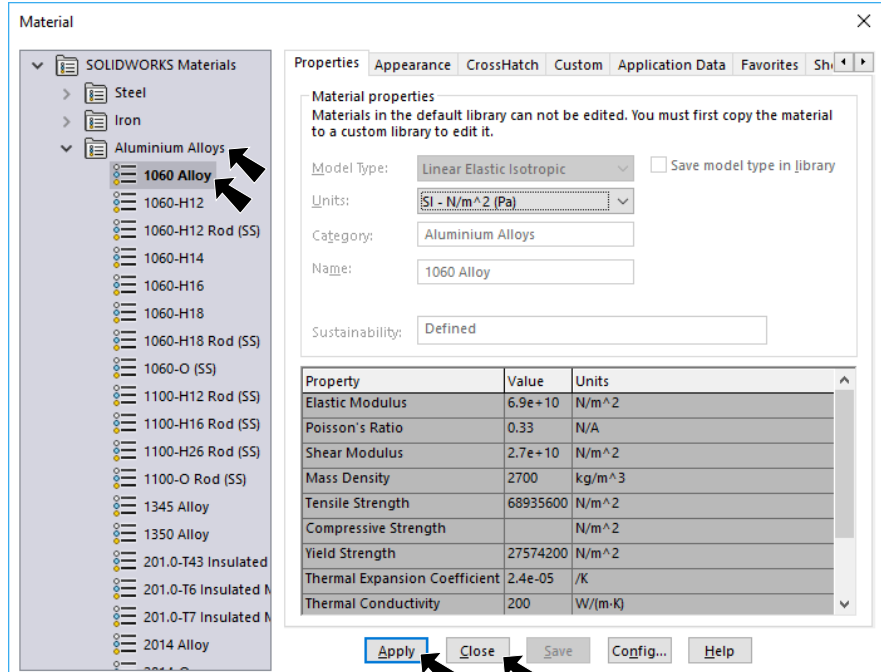

Fig. 11
- Step 2. Expand **Aluminum Alloys** in the material tree and select **1060 Alloy**, Fig. 11. Click **Apply** and **Close**.